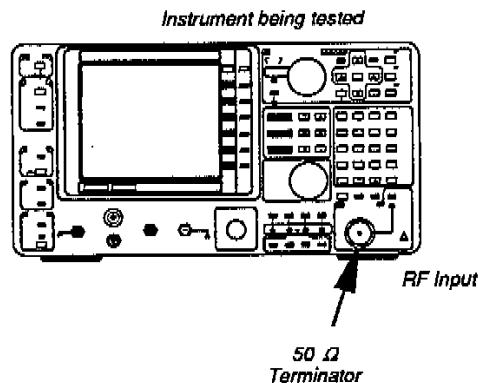

Figure 4-10. Test Setup for Equivalent Input Noise Check
2. Connect a 50 Ω terminator to the instrument RF INPUT (as shown in Figure 4-10).